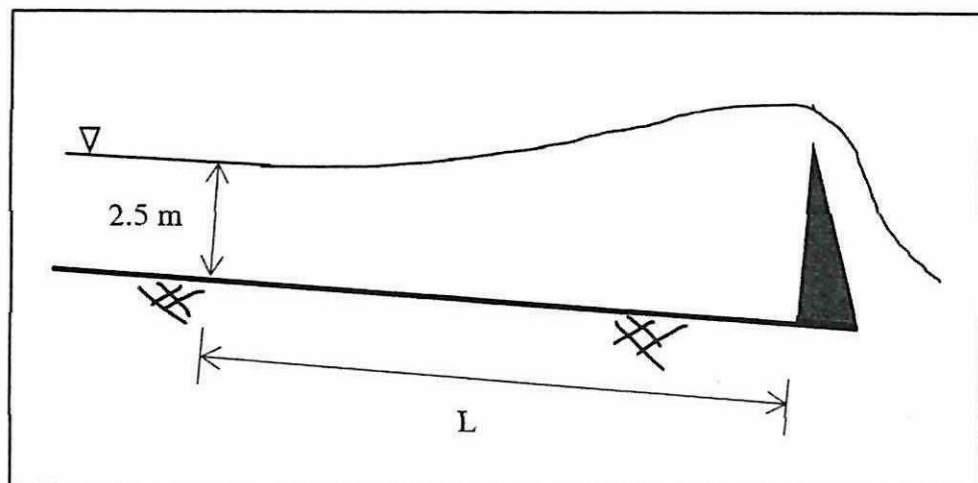

Figure Q2.1
- (d) A very wide river in **Figure Q2.1** has uniform depth of 2.5 m and surface roughness,  $n = 0.035$  laid on a longitudinal slope of 0.0004. The set-up weir at the downstream of the river causing backwater to occur, where water surface increases 2 m from normal depth at the back of weir.